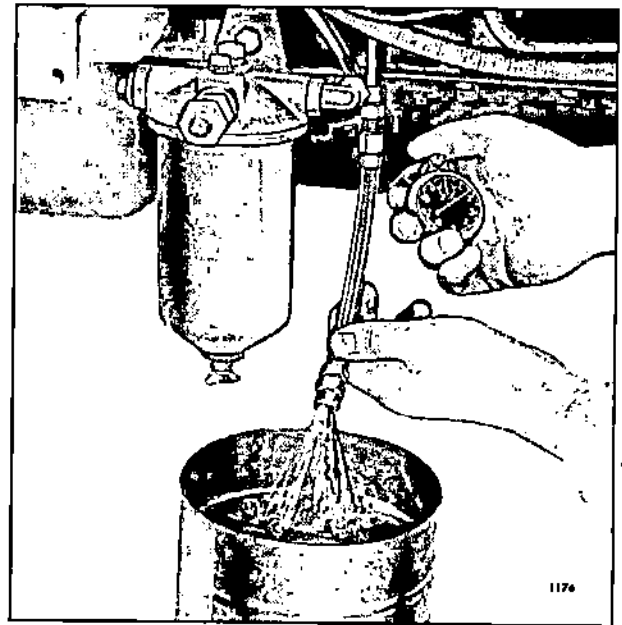

Fig. 4 - Measuring Fuel Flow from Fuel Return Manifold
1. Disconnect the fuel return tube and hold the open end of the tube in a suitable container (Fig. 4).